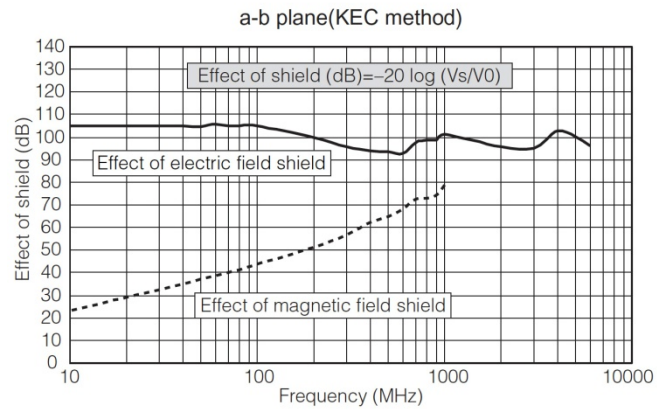

Fig 3.
- PGS can provide some shielding to electromagnetic noise, providing a simultaneous EMI and thermal solution (see fig 3).